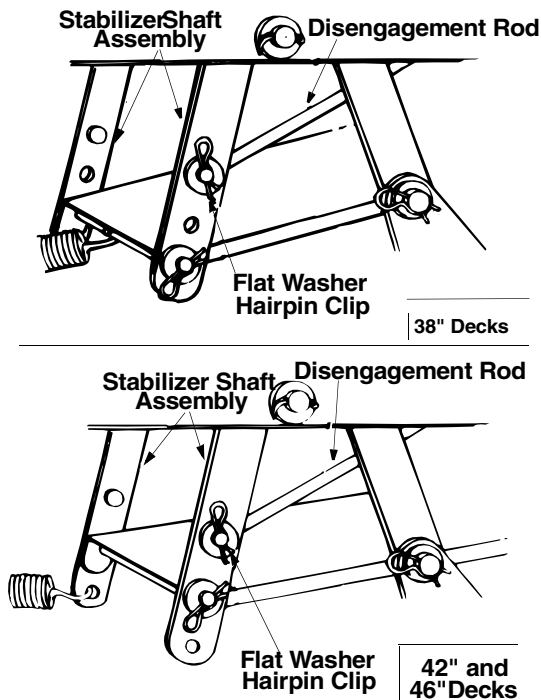

Figure 14
- Remove the cotter pin and flat washer which secure the disengagement rod to the stabilizer shaft assembly. See Figure 14 .